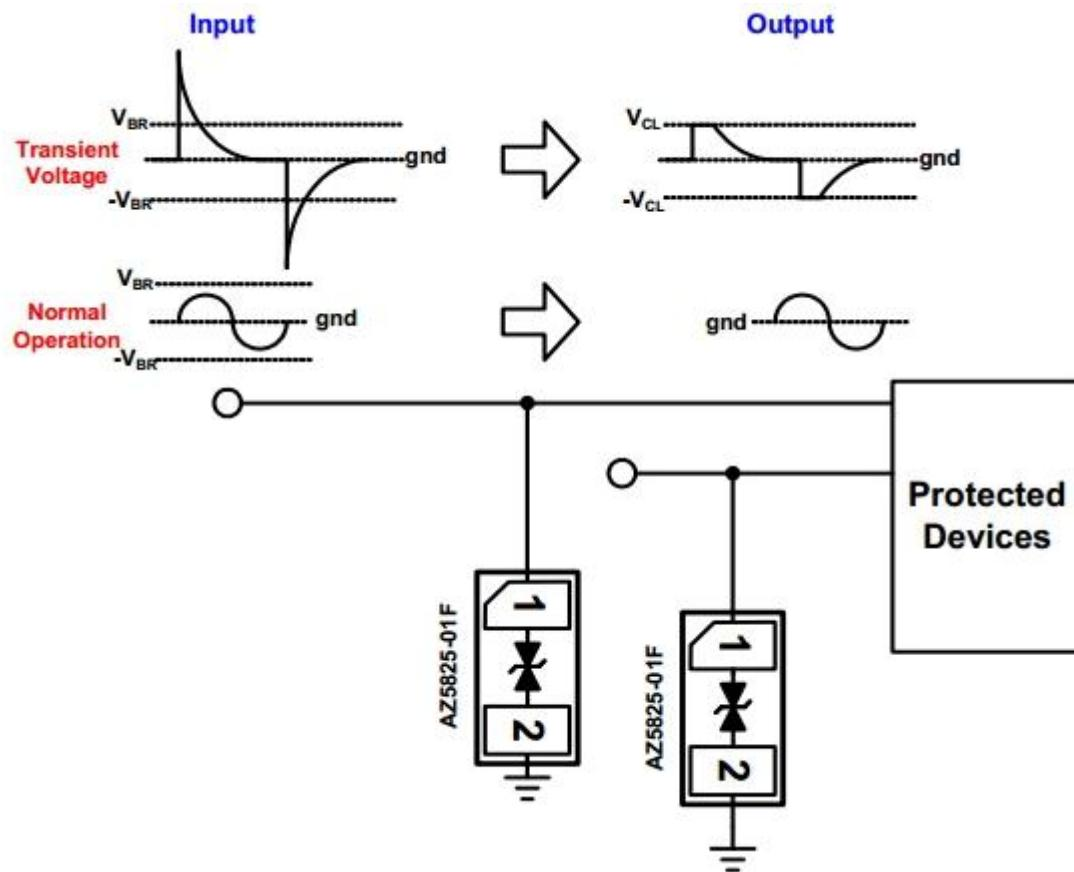

Figure 3-31 AZ8525-01F Application Design
- RK818-3 maximum input voltage is 5.7V, to prevent USB port voltage over 5.7V or more by the surge voltage, the pin 8 and pin 9 of RK818-3 need to add TVS, which is very important. It is recommended model: AZ5825-01F, which meet the ESD immunity requirements of IEC 61000-4-2, level 4 ($\pm 15\text{Kv}$ air, $\pm 8\text{kV}$ contact discharge). The TVS application design shown as Figure 3-31; protected line is connected at pin 1, and the pin 2 is connected to a ground plane on